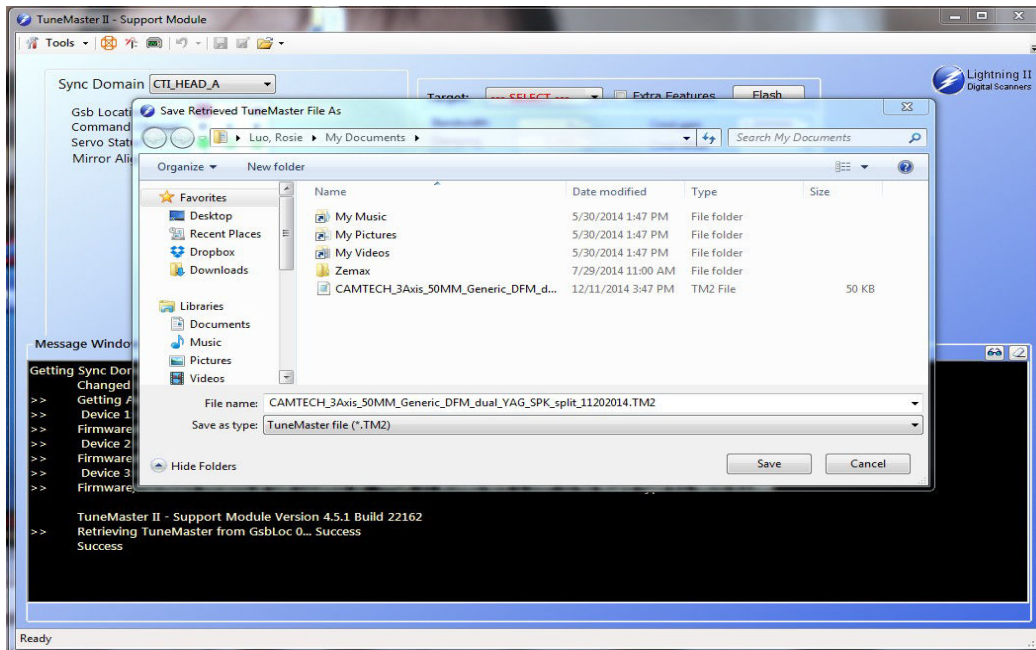

Figure 3 - Save Tune File
- A pop-up window will ask you to save the tune file (.TM2) (See Figure 3).